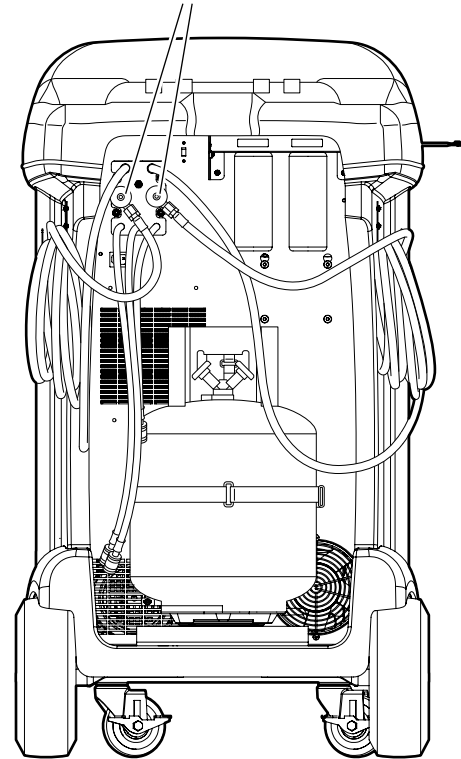

Figure 14
2. Loop the service hoses around the handle twice and attach them to the storage ports. See Figure 14.